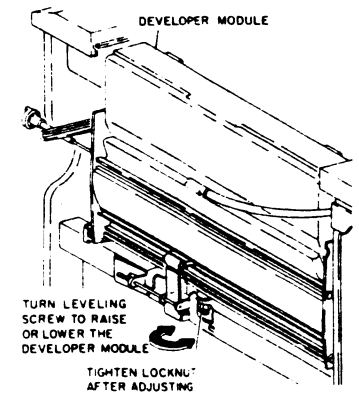

Figure 4. Adjustment of Developer Module Level
3. TURN LEVELING SCREW CLOCKWISE UNTIL IT STOPS. ADJUST LEVELING SCREW UNTIL LINE LEVEL ON DEVELOPER MODULE IS WITH 1/4 BUBBLE OF LINE LEVEL ON FRONT FRAME (FIGURE 4).